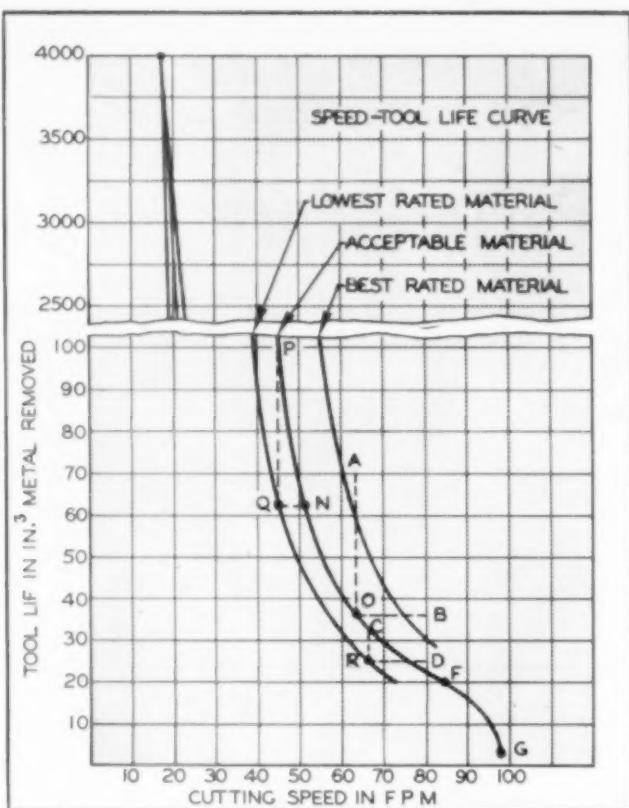

Fig. 1. Three ratings are shown here, plotted in terms of cutting speed versus cu. in. of metal removed.
Fig. 1 shows three speed-tool life curves and illustrates the form of all such curves. At this time we will consider only the curve labeled as an "acceptable material". Note that for all values of cutting speed lower than the point *F* the curve is a smooth parabola, so that as cutting speed is decreased, tool life increases. It is obvious from the shape of the curve that tool life increases much faster than the decrease in cutting speed. Note also that for cutting speeds higher than point *F* on the curve, the form of the curve is no longer a parabola, but simply drops off and tool life rapidly approaches zero as cutting speed increases. This indicates the cutting speed at which tool failure will be almost instantaneous.
An examination of the three curves on Fig. 1 will show that they are all of the same shape and are proportionally equidistant from each other throughout their length on the cutting speed axis. This is true throughout the range of speeds normally used in production, but at very slow speeds the curves will tend to come together. In fact, all tool materials—high speed steel, cast alloy, and carbide—cutting the same work material tend to have identical tool life at very low cutting speeds. This is of no importance, as the object of all tool development is to determine the highest practical cutting speed, rather than the lowest cutting speed.
Although not shown by the curves of Fig. 1, a change in cutting feed, depth of cut, machinability, tool design, coolant, or severity of the cut will shift the position (but not the general shape) of the speed-tool-life curve.
2. Using these conditions, a preliminary test is made to determine a cutting speed that will give the point of almost instant tool failure. This point is illustrated at *G* in Fig. 1.
such as *GFON* of Fig. 1. It is necessary only to make sufficient tests to determine the shape of the curve for cutting speeds about 30 percent less than that where the knee of the curve occurs. In Fig. 1 the knee would be at *F* where speed is 84 fpm. A cutting speed of about 80 percent of this value, say 67 fpm, would then be selected for the standard test speed.
The fundamental problem on a tool test is to compare tool materials one with another for the purpose of selecting the best tool material. But the ratio of this difference can be misleading if not properly stated. On the lower section of Fig. 1 three curves are shown. The left-hand curve represents the average performance of the poorest tool
The conclusions were based on a test accomplished on a universal testing machine. A steel block form was designed with varying block radii along its four edges: $\frac{1}{16}$ in., $\frac{1}{8}$ in., $\frac{1}{4}$ in., and $\frac{1}{2}$ in. respectively. Additional equipment included a welded box containing a four-inch-deep rubber pad. Shore hardness of the steel was 55-60. Fig. 1 shows the arrangement of the test. The form block was pressed down in an inverted position into the rubber pad. The rubber blanket was restricted to extrusion by the flanges of the box, and better distribution of the pressure was thus insured. The test specimens, in various thicknesses, were bent 90 deg around the four radii of the block. Pressures and springback angles are given in Table I.